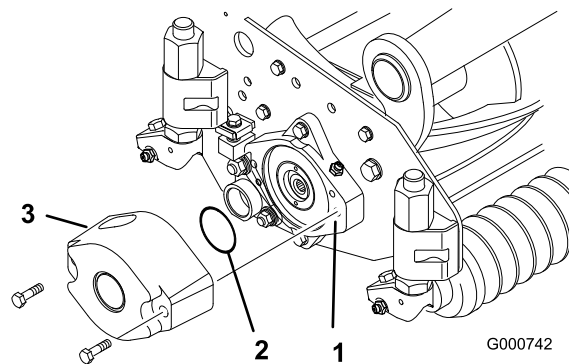
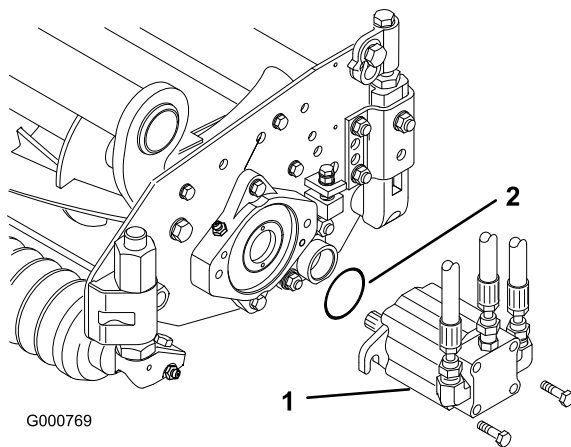

Figure 4
Figure 7
3. Lubricate and install a large O-ring into bearing housing groove on each end of cutting unit (Figure 4 & Figure 7).
4. Install a counter weight onto appropriate end of each cutting unit with capscrews provided (Figure 4).
13. Mount the motor to the drive end of the cutting unit and secure with two capscrews provided (Figure 7).